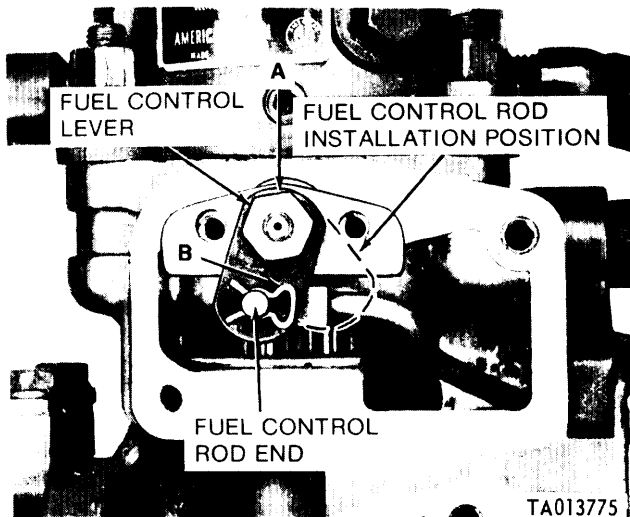
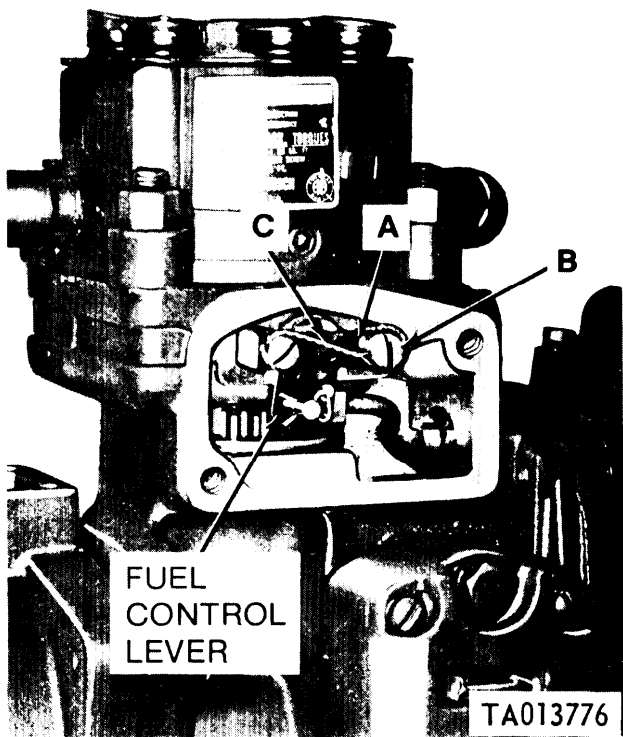

Figure 3-150. Installing fuel control unit assembly on metering and distributing fuel injection pump.
Figure 3-151. Installing control unit retainer.
c. Refer to figure 3-150. Align the control rod end with the hole in the control unit lever (A) and install retaining pin (B) as shown. Refer to figure 3-151, Install control unit retainer (A) and secure with two assembled washer screws (B). Torque tighten screws to 18-23 inch-pounds. Clearance between retainer and control unit shaft must be .0100 to .0250 inches. Secure screws with locking wire (C).